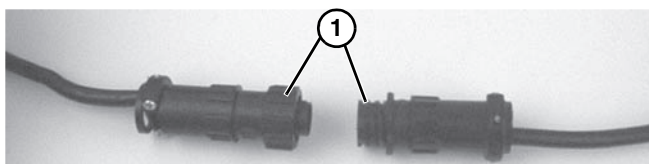

Figure 18
3. For DC variable speed motor, unplug motor cord at disconnect (Figure 18, item 1).